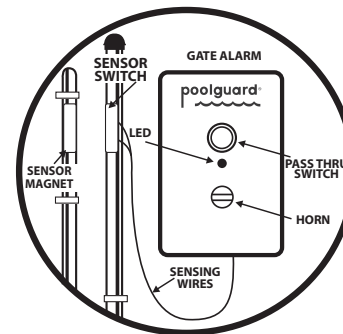

Figure 1
2. INSTALLING POOLGUARD GATE ALARM (FIGS. 1 & 2)
3. INSTALLING GATE SENSOR (FIG. 1)
The Poolguard Gate Alarm is activated by a sensor which consists of two parts. One part contains the sensor magnet. The sensor switch is permanently connected to the sensing wire that comes from the Poolguard Gate Alarm. Using the screw supplied, the sensor switch is installed on the stationary part (usually the frame) of the fence, and the sensor switch should be on the side near the top of the fence post (Fig. 1), but not on the side which is hinged. To function properly the sensor switch and sensor magnet should line up with each other, and a spacing of 2 1/2" between the sensor switch and sensor magnet is acceptable. If either the gate or the fence post is made of steel this may limit spacing between sensor switch and sensor magnet to 1 1/4", test your alarm. If spacing of 2 1/2" is needed, use 1/4" thick wood or plastic shims under the sensor switch and sensor magnet.
4. OPERATING YOUR GATE ALARM (FIG. 1)